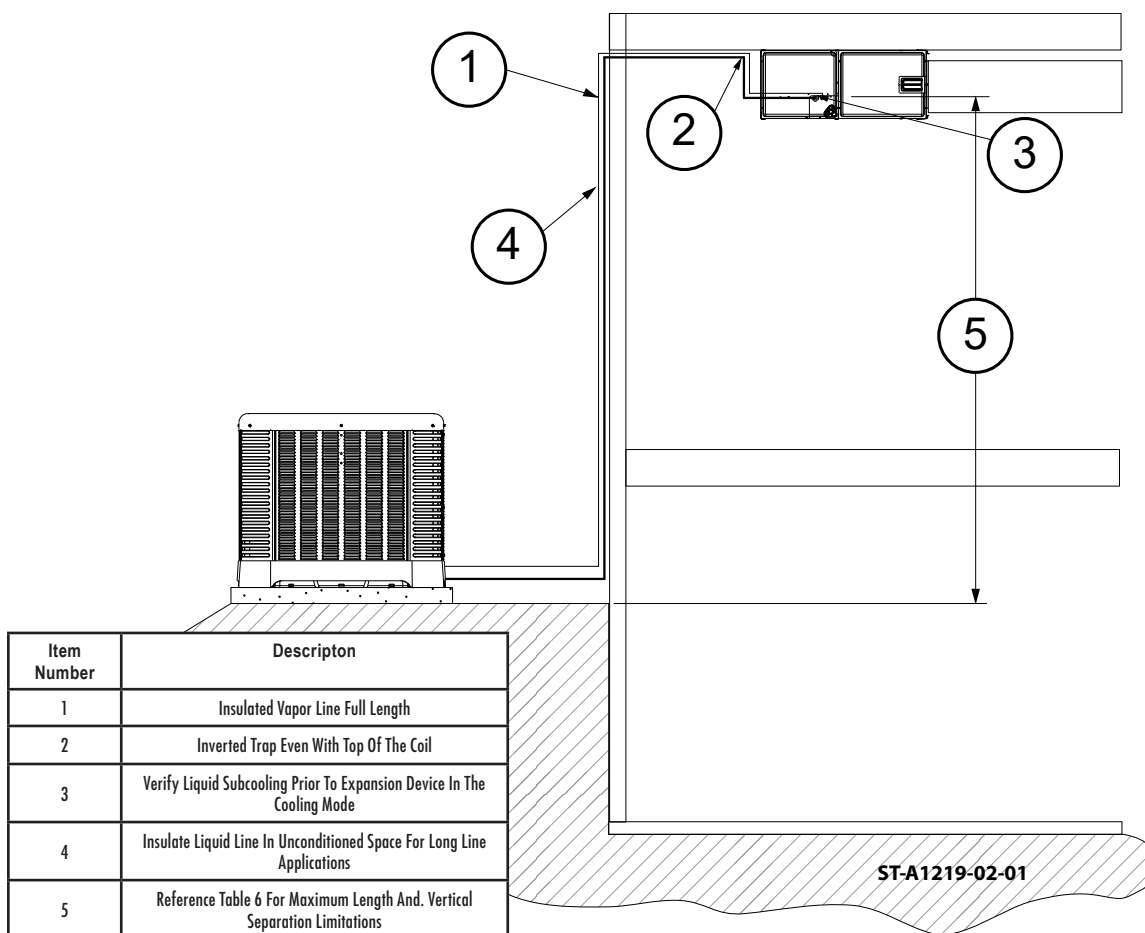

Figure 9: Long Line Liquid Line Routing
1. Inverted vapor-line trap (Reference Figure 9)